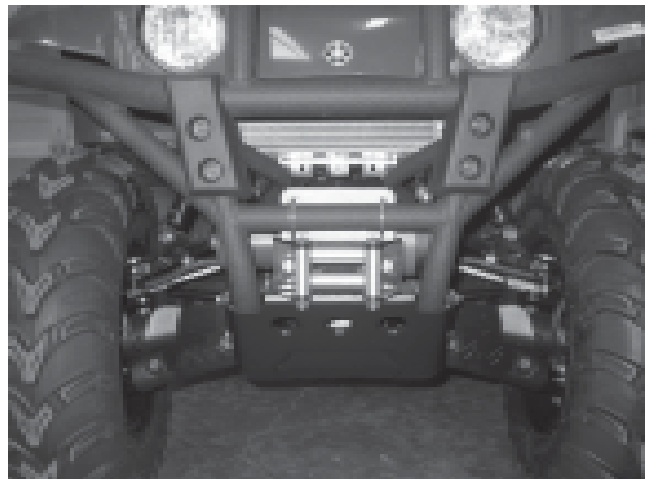

Figure 6: Re-attach skid plate
7. Winch installation is now complete. See figure 6. See winch installation instructions to complete wiring.